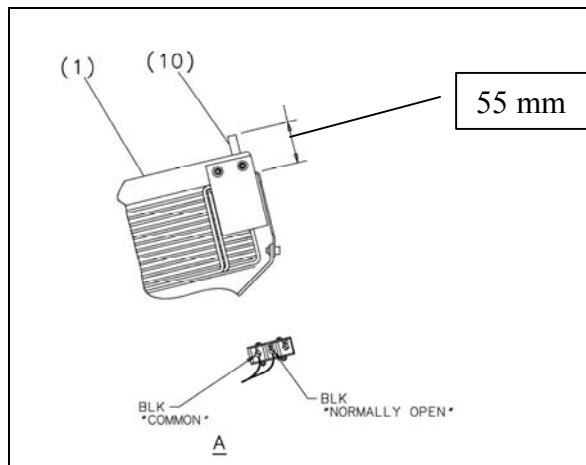

Figure 4. Limit Switch Height Adjustment
3. Per Figure 4, verify the limit switch height is set to 55 mm. If not, adjust the switch plunger height to this distance.
4. Place top covers onto gantry and verify limit switches engage. Referring to Figure 4, adjust as need to obtain positive actuation of the switches.